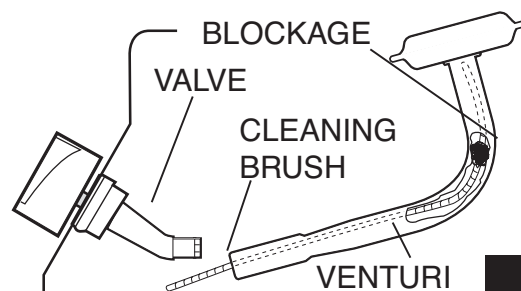

Fig. 8
- Use a venturi cleaning brush and insert the brush into the venturi tube 1 inch at a time, then remove to prevent moving the debris upwards (see Figure 8).
- Visually check the flames every time you light your barbeque (Figure 10). If the flame is abnormally small or a smoky yellow - shut off the barbeque and check the venturi tubes for blockage (see Figure 8) or refer to the Troubleshooting Guide.